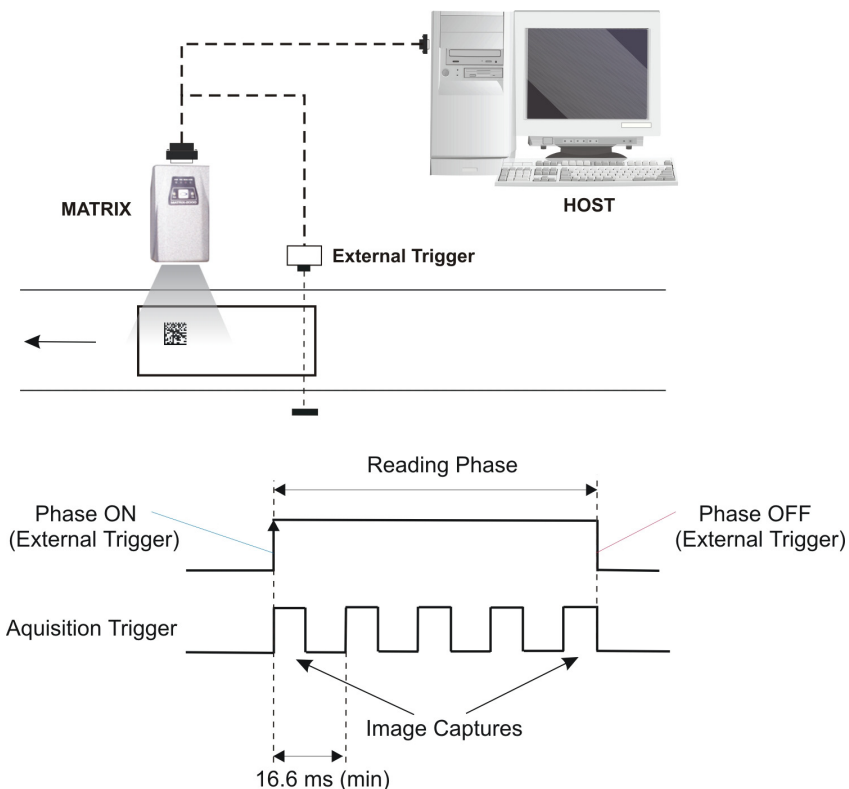

Figure 3 – Reading Phase using external Presence Sensor signal
- **Presence Sensor:** the presence sensor signal edges define the Reading Phase according to the values of the **Reading Phase ON** and **Reading Phase OFF** parameters (Figure 3).